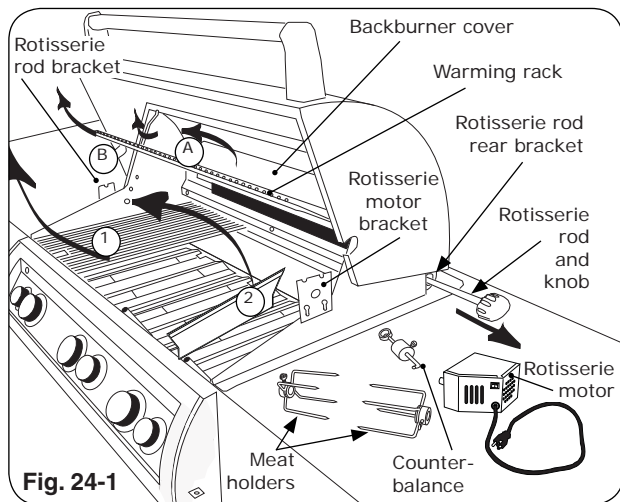

Fig. 24-1
2. Slide rotisserie motor fully onto motor bracket (right side, Fig. 24-1 and 24-2).
3. Remove rotisserie rod from rear bracket (Fig. 24-1) and attach knob if necessary.